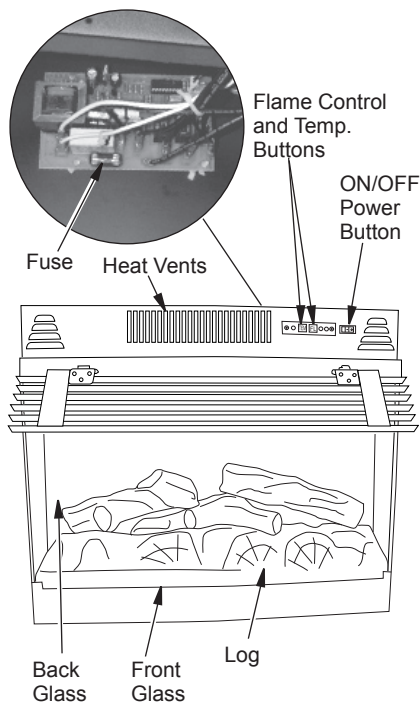
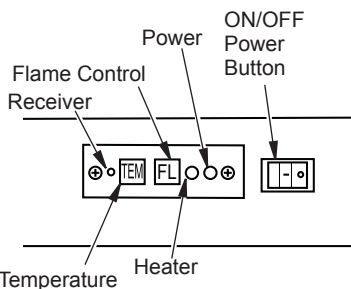

Figure 2 - Product Identification
Figure 5 - Controls For Electric Fireplace
The controls (see Figure 5) are located behind the hinged top panel. Pull gently on top panel to open.
2. **Main ON/OFF Power Switch and LED:** This switch is located on the right side of the control panel. The power LED will light up when the unit is on (see Figure 5). When unit is on, the default settings for the fireplace is low background lighting and high ember bed and flame and the heater is off.
3. **Temperature Control Button and LED:** This button is located to the right of the Remote Control Receiver (see Figure 5). The LED is located to the right of the Flame Button. Push button to cycle through settings. When this button is pushed the LED will come on. When heater is on heat will emit through vents located in the middle of the top louver panel (see Figure 2, page 3).
4. **Flame Control Button:** This button is located to the right of the Temperature Button (see Figure 5). After power is on, push the Flame Control Button to adjust flame and ember bed brightness. Press and release the Flame Control Button to cycle through LO, MED, HI and OFF.